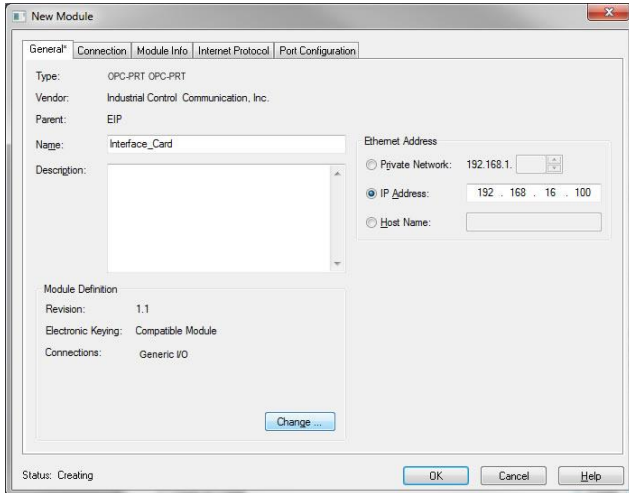

Figure 29: AOP Interface Card Module Properties
- 12) The "New Module" properties dialog box will open as shown in Figure 29.